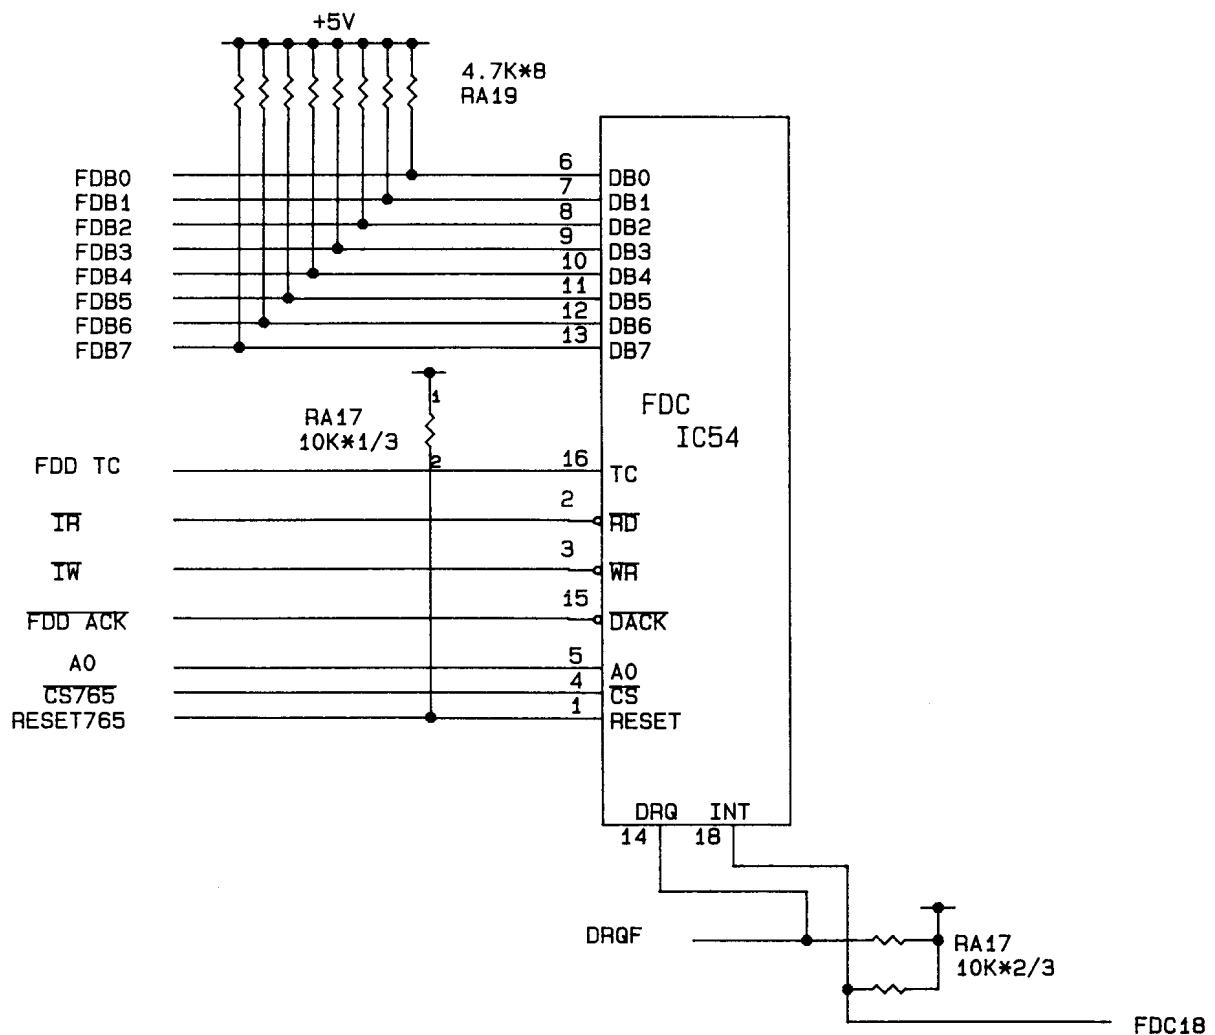

Figure 4-24. CPU Interface for FDC
Figure 4-24 shows the CPU interface for FDC. The clock for FDC is supplied from VFO (4MHz clock). The reset signal (RESET765) is fed to the reset terminal. The terminal A0 selects the contents to be sent to the data bus. When it is set, the data register contents are sent, when it is reset, the status register are sent. “0” active signals IR (IW) input allows the transfer of data from (to) the FDC to (from) the data bus. The FDC is selected when “CS765” is low, enabling IR, IW and A0.